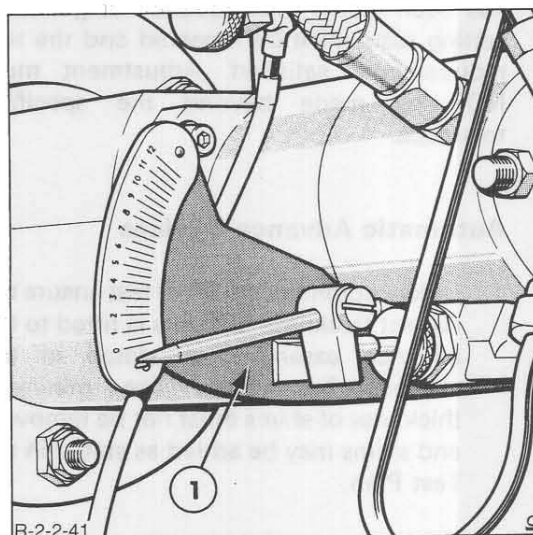

Figure 41
3. Mount the pump on the test bench using a suitable bracket and install a quill shaft between the pump drive hub and the test bench drive shaft. Remove the end cap plug from the advance device end cap and insert the extension shaft of tool No. 7244-59 into the end cap, securing the adjustable scale in position, Figure 41. Adjust the scale to set the pointer at zero.